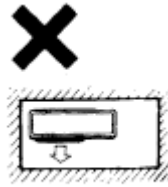

Fig. 15
1. If there are blocks around the unit, then the place is not suitable for installation (see Fig. 15).